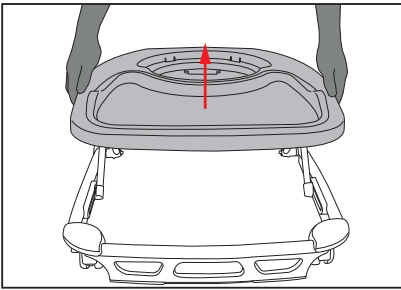

Figure 3.1
- Set the walker upright and pull up on the top part until you hear a click. **See Figure 3.1**.